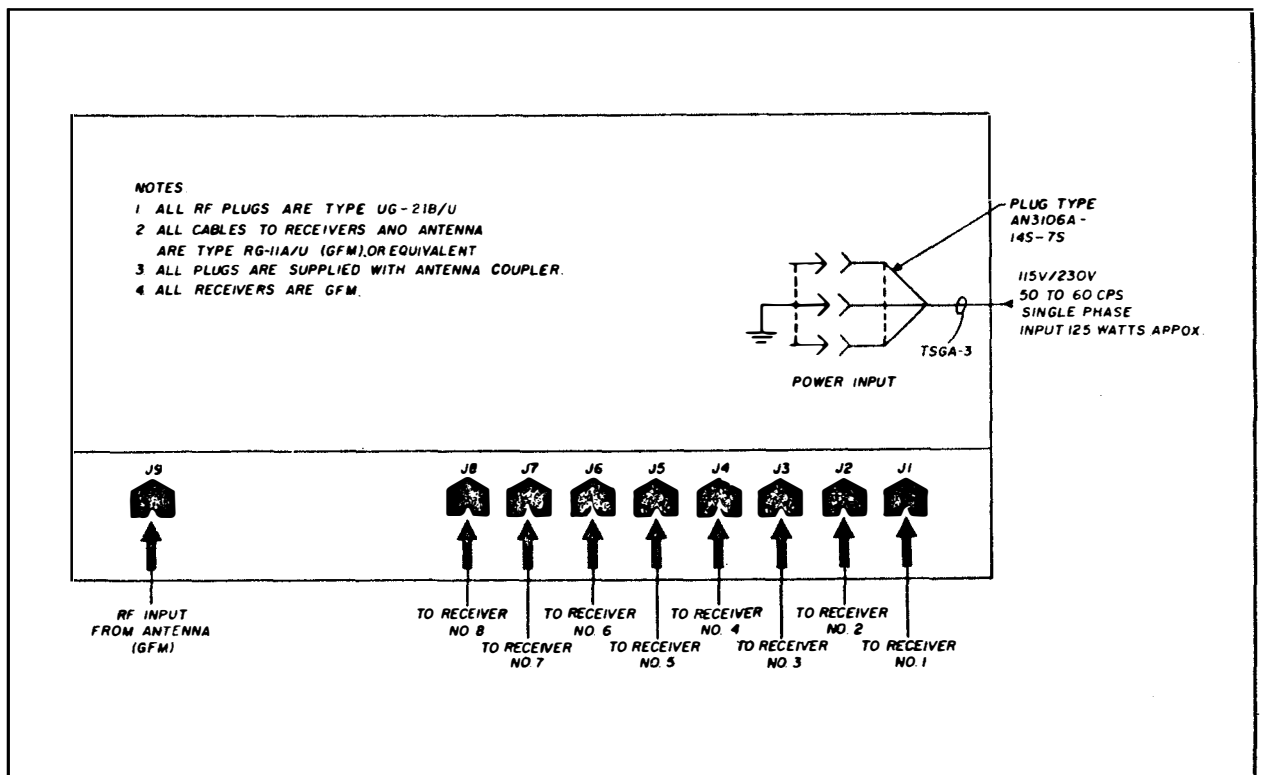

Figure 2-2. Antenna Coupler CU-872/U, Interconnecting Diagram
Interconnections of this unit are shown in figure 2-2. It should be noted that no terminating caps are required on the output connectors in the event that less than the maximum number of receivers are used (eight receivers). All connections should be made carefully in order to obtain maximum coupling.
a. The interconnection diagram, figure 2-2, shows the type of coaxial connector termination necessary for all coaxial cable interconnection. For proper assembly of connectors to coaxial cables, follow the procedures in Armed Forces Index of R.F. Transmission Lines and Fittings, NAVSHIPS 900102B.